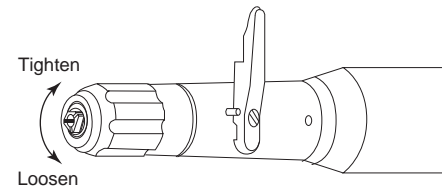

Fig. 7
③ Attachment and Adjustment of the collet
- And turn the collet about 1 / 5 counterclockwise to adjust the cutting tool to pull out easily. In this case, about 0.1mm thinner of cutting tool can be used (Fig. 7).